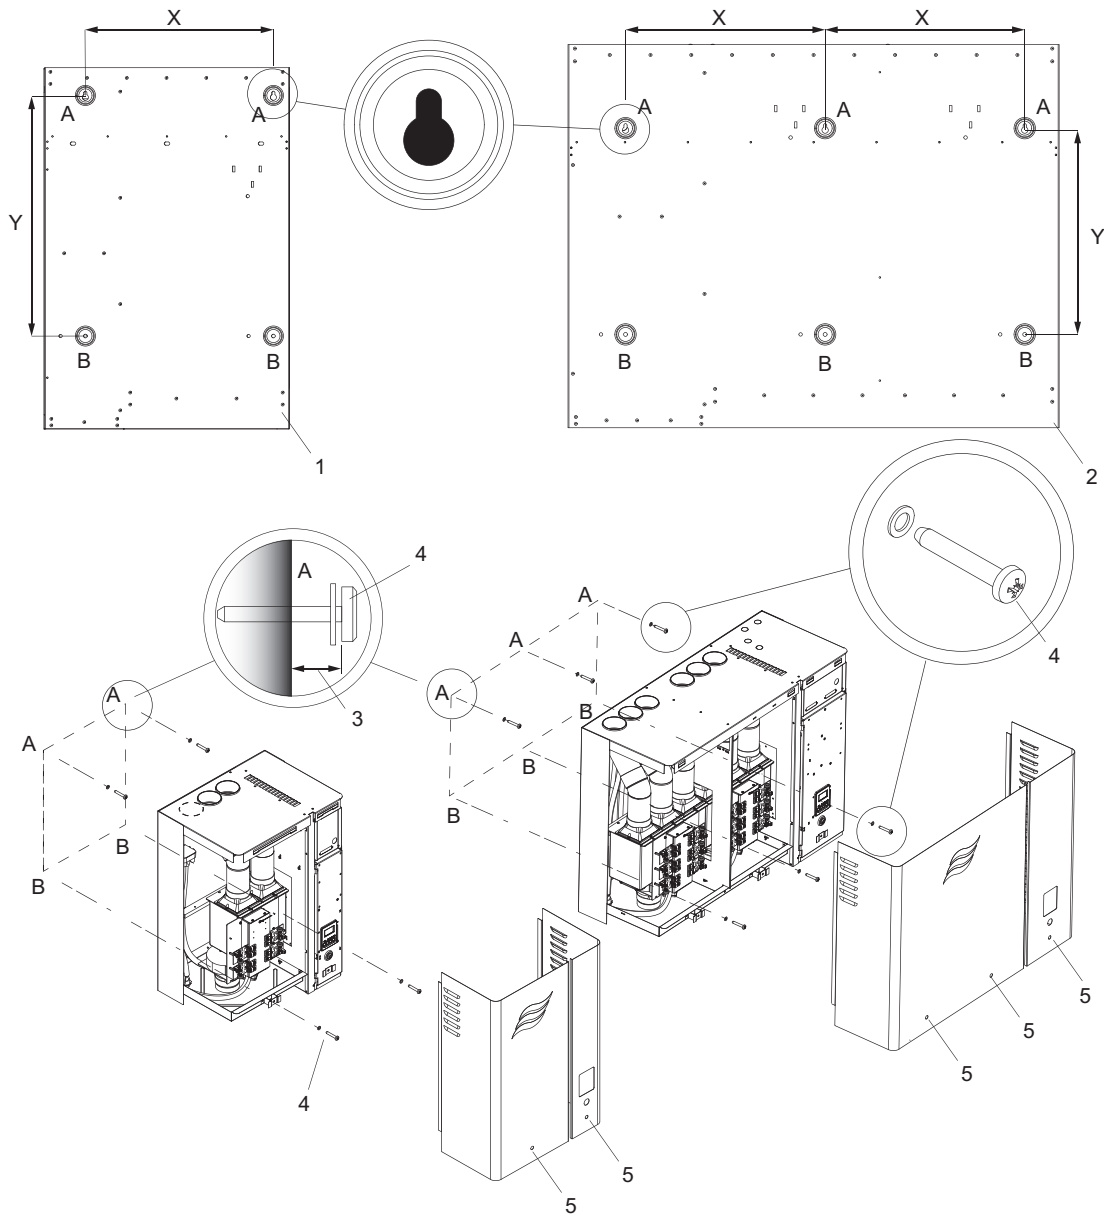

Figure 9 - Lag Bolt Hole Locations for Medium and Large Condair US
2. Use a level and mark points A and B for the lag bolts. Refer to Figure 9 - on the previous page.